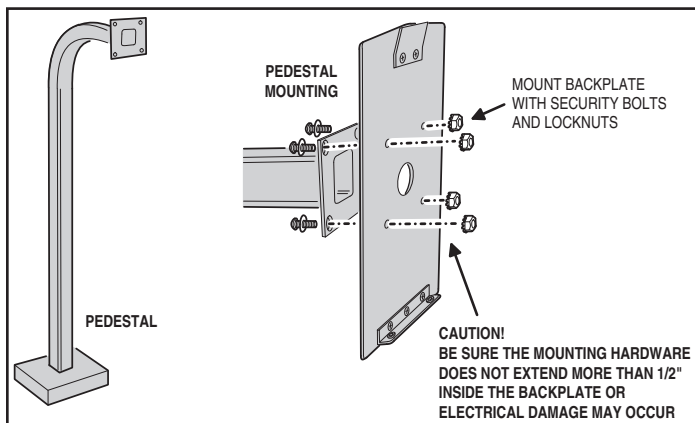

Figure 3. Pedestal Mounting Backplate
2. Use four security bolts and locking nuts to secure the backplate to the pedestal (see Figure 3).